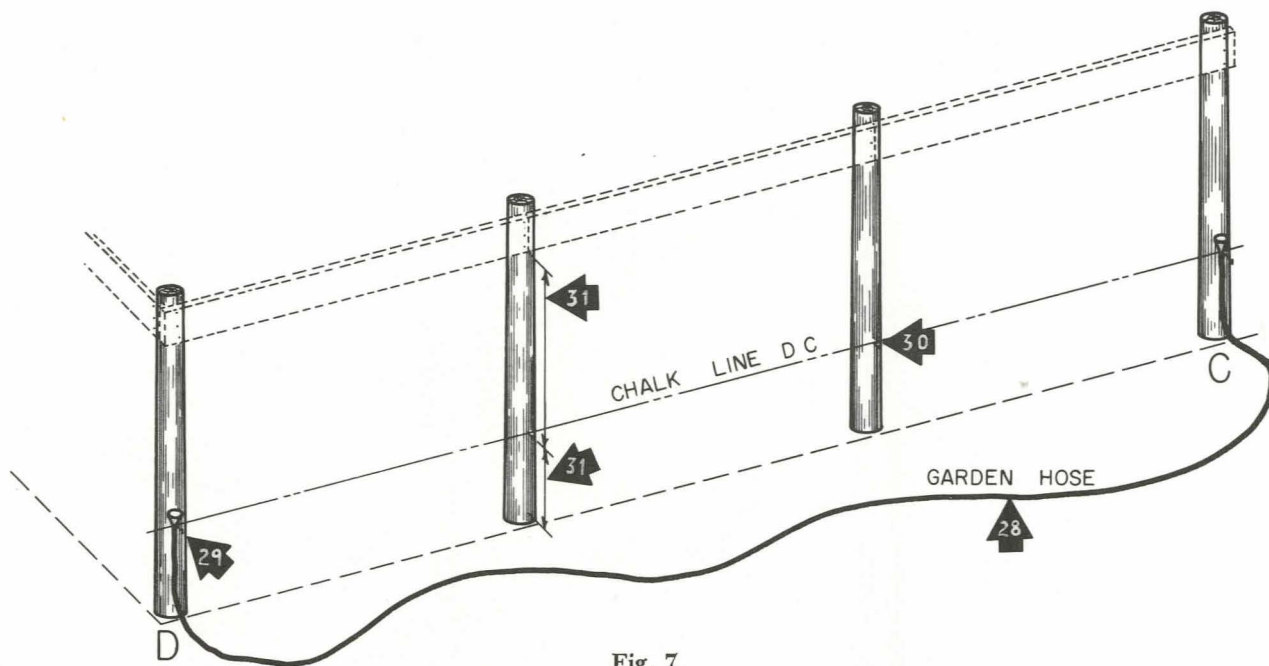

Fig. 7.
28. Find a level point on all four corner poles; also on other poles if distance between corner poles is more than 50 or 60 feet. Use an engineer's level for this. If you don't have an engineer's level, use a water-filled hose to find the level points. A transparent hose is good for this (See Fig. 7).